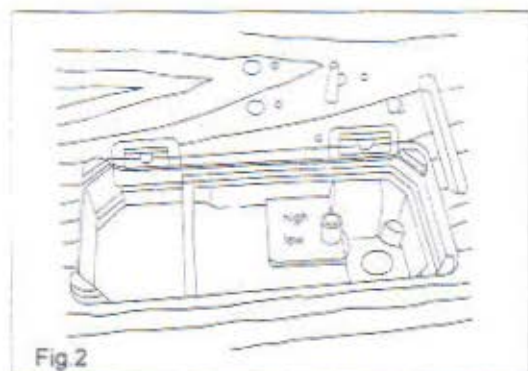

Fig.2
1. Oiling shall be made in oil reservoir and the oil surface also be made to level the mark "High" before the machine is started running (Fig.2)